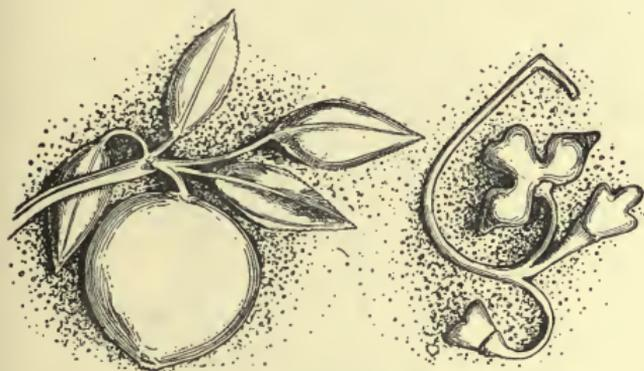

Fig. 94.
*repossé* so simple a thing as a pear or a curved leaf, Fig. 94, and will have the patience to execute it with great care, several times, before proceeding to more ambitious work,—that is to say, make it till you can do so from memory, with perfect confidence and ease,—you will not only find that most large pieces *involve quite the same work over and over again*, but also that you have saved yourself months of work by perfectly mastering the first steps. In Decorative or Minor Arts—design apart—careful mastery of the rudiments is equivalent to genius.